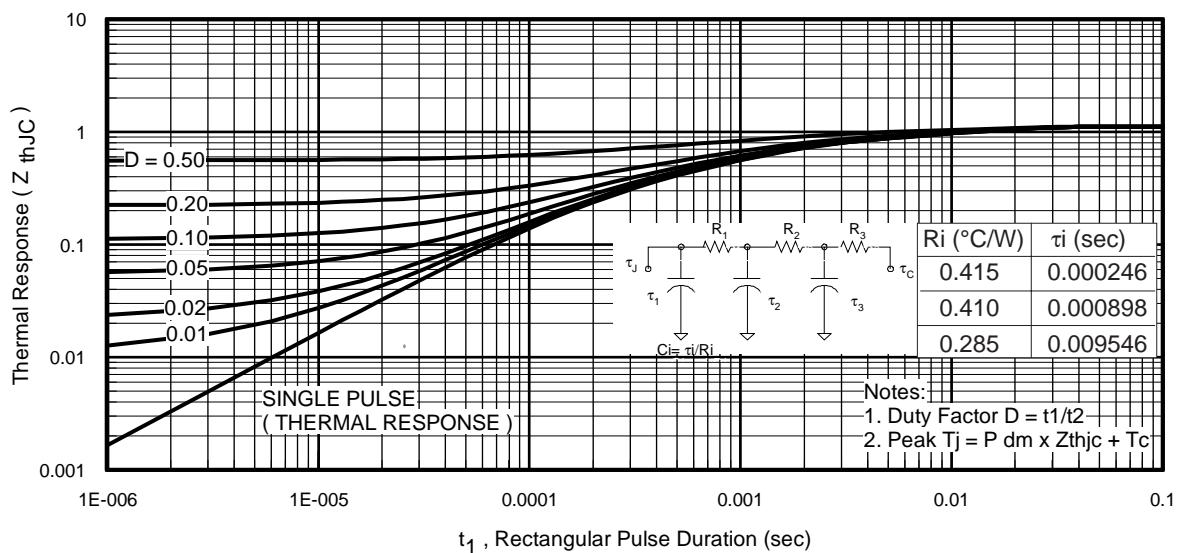
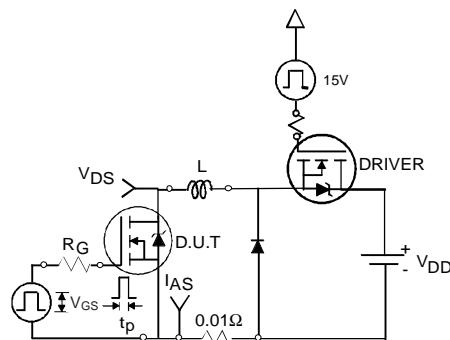

Fig 11. Maximum Effective Transient Thermal Impedance, Junction-to-Case
Fig 12a. Unclamped Inductive Test Circuit
- ① Repetitive rating; pulse width limited by max. junction temperature. (See fig. 11).
- ② Limited by $T_{J\text{max}}$, starting $T_J = 25^\circ\text{C}, L = 0.077\text{mH}, R_G = 25\Omega, I_{AS} = 51\text{A}, V_{GS} = 10V$. Part not recommended for use above this value.
- ③ $I_{SD} \leq 51\text{A}$, $di/dt \leq 260\text{A}/\mu\text{s}$, $V_{DD} \leq V_{(\text{BR})\text{DSS}}$, $T_J \leq 175^\circ\text{C}$.
- ④ Pulse width $\leq 1.0\text{ms}$; duty cycle $\leq 2\%$.
- ⑤ $C_{oss \text{ eff.}}$ is a fixed capacitance that gives the same charging time as C_{oss} while V_{DS} is rising from 0 to 80% V_{DSS} .
- ⑥ Limited by $T_{J\text{max}}$, see Fig.12a, 12b, 15, 16 for typical repetitive avalanche performance.
- ⑦ This value determined from sample failure population. 100% tested to this value in production.
- ⑧ This is applied to D²Pak, when mounted on 1" square PCB (FR-4 or G-10 Material). For recommended footprint and soldering techniques refer to application note #AN-994.
3. Equation below based on circuit and waveforms shown in Figures 12a, 12b.
- $Z_{thJC}(D, t_{av})$ = Transient thermal resistance, see figure 11)